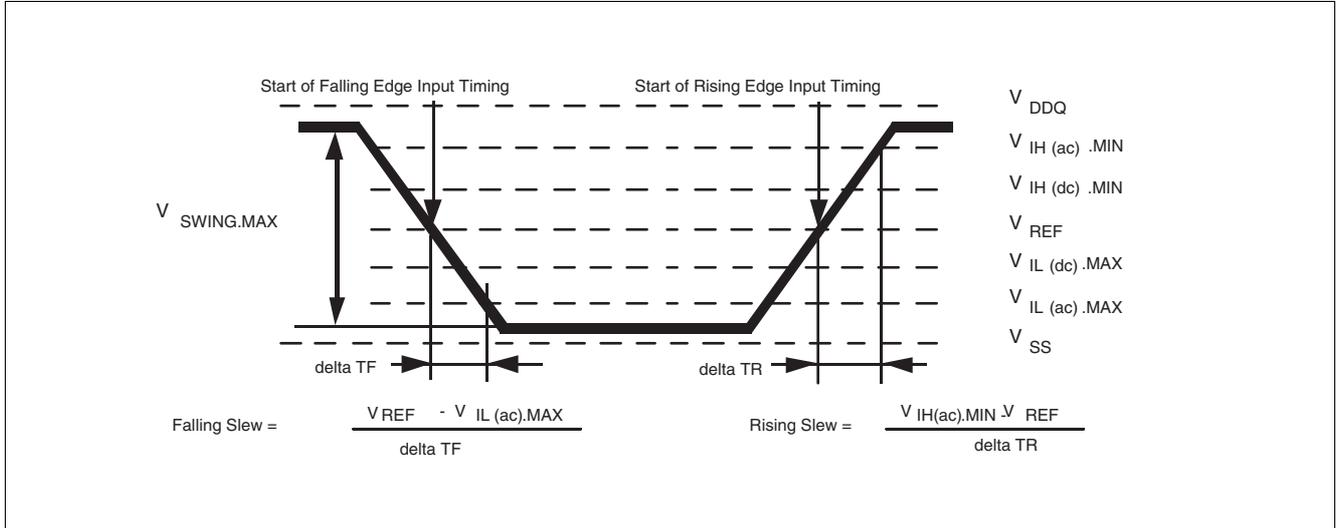

Figure 57 Single-ended AC Input Test Conditions Diagram
- 2) The input signal minimum slew rate is to be maintained over the range from $V_{IH(AC)min}$ to V_{REF} for rising edges and the range from V_{REF} to $V_{IL(AC)max}$ for falling edges as shown in Figure 57.